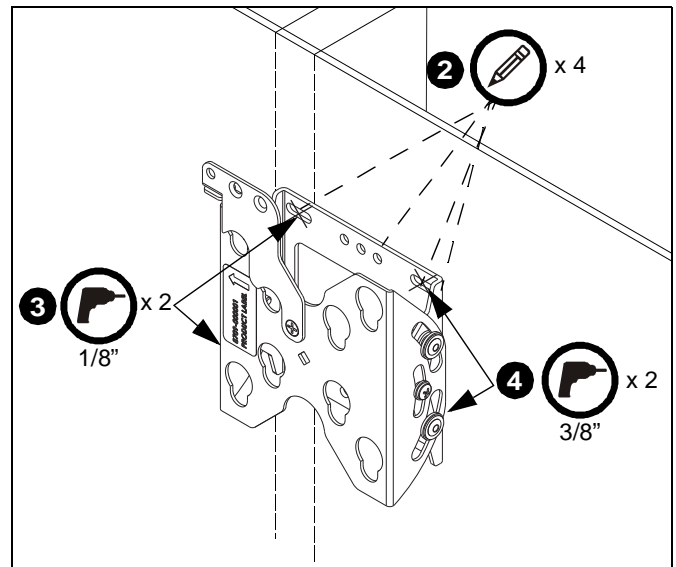

Figure 2
2. Level FTR1U/FTR100 assembly (A) at desired height and, using it as a template, mark the location of the four anchor holes (one in each corner slot). (See Figure 2)
3. Drill 1/8" pilot holes in wood stud locations. Ensure pilot holes are straight. (See Figure 2)
4. Drill 3/8" anchor holes in the other two marked locations. Ensure holes are straight and completely through drywall. (See Figure 2)